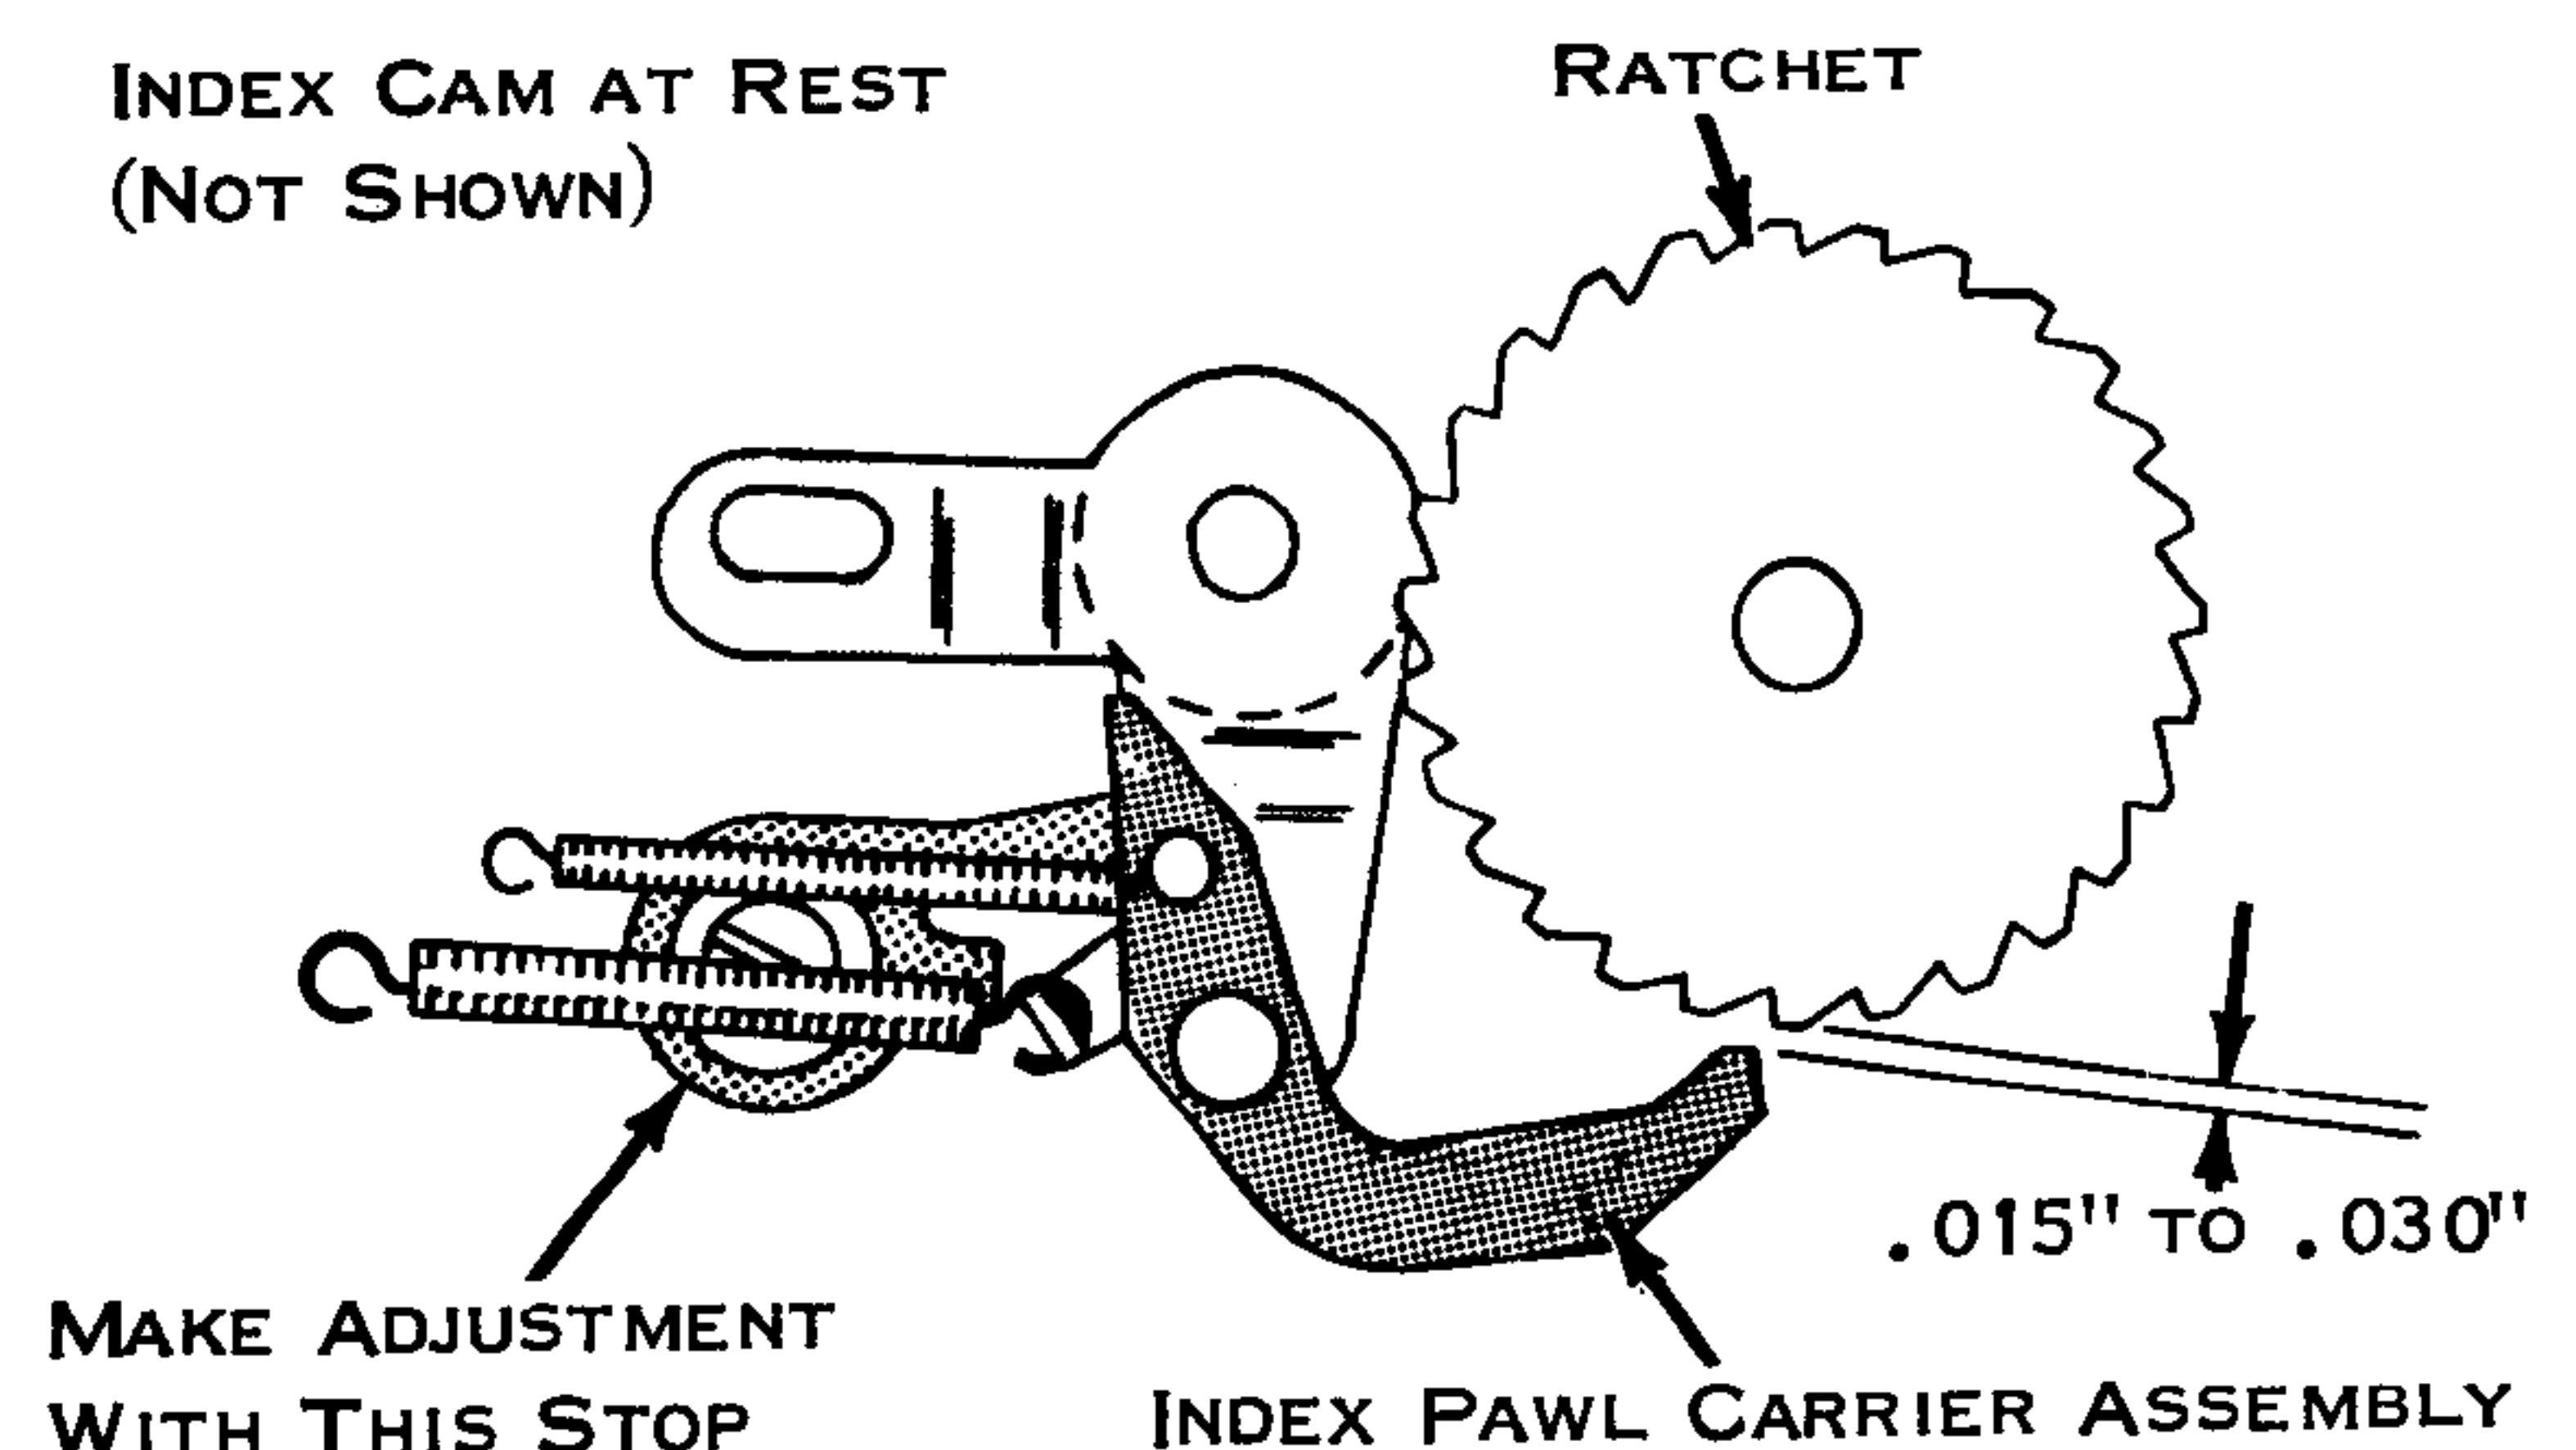

Figure 202. Upper Index Pawl Stop (Old Style)
- b. Old Style (Fig. 202) - With the index cam latched, adjust the upper index pawl stop so that the index pawl clears the ratchet by .015" to .030".